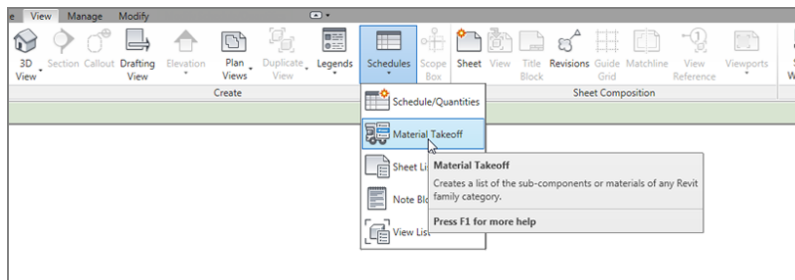

FIGURE 11.25: To add a new material takeoff, you can go to the View tab.
1. On the View tab, click Schedules > Material Takeoff, as shown in Figure 11.25.